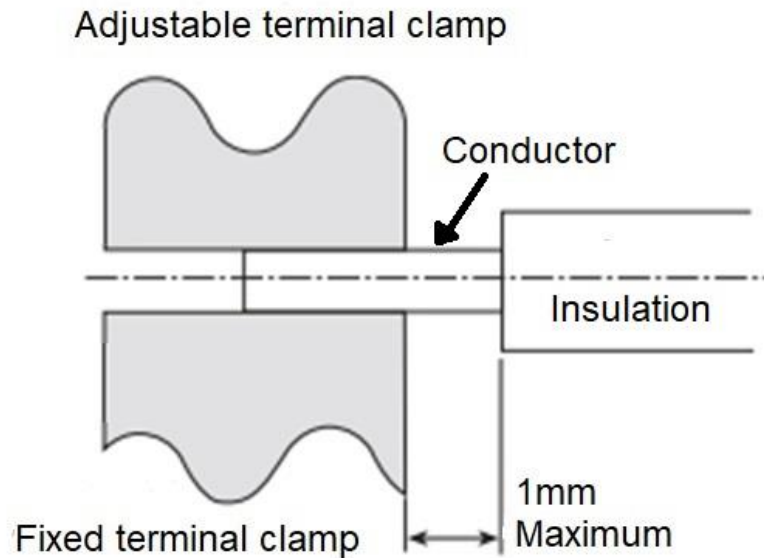

Figure M-5 – Clamping a conductor in the terminal block
4. Conductor insulation shall extend to within 1mm of the metal in the terminal throat (as shown in figure M-5)